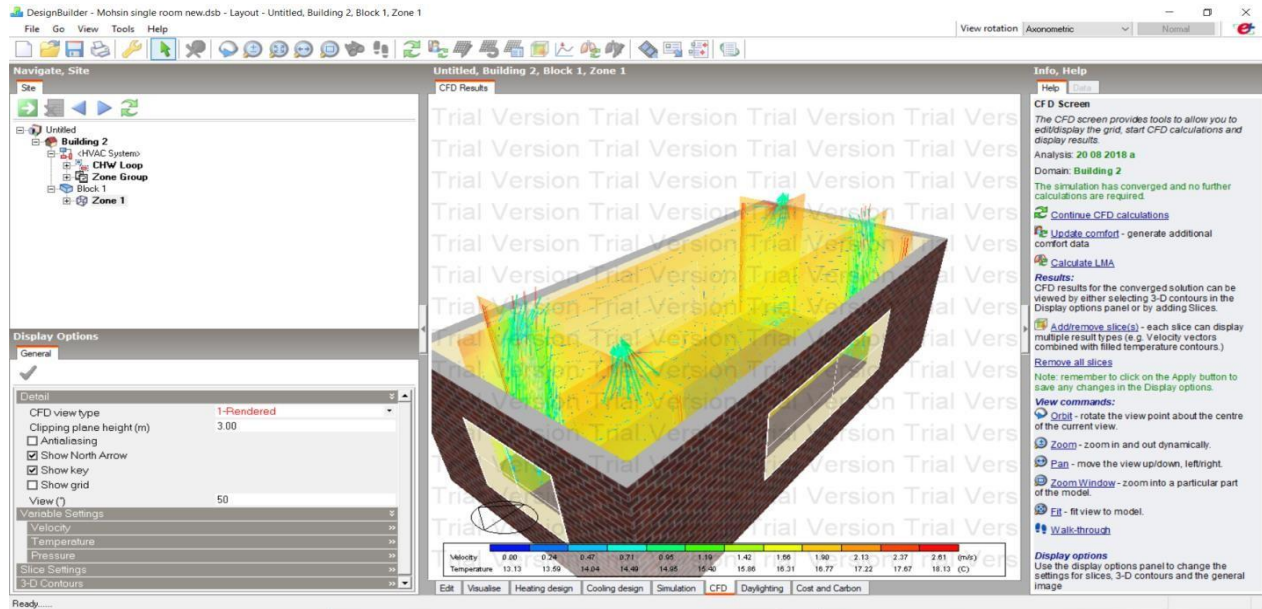

Figure 4: Air, velocity, temperature distribution through diffusers in a rendered room
- The above figure is similar to figure 4, this is shown in wireframe view type.